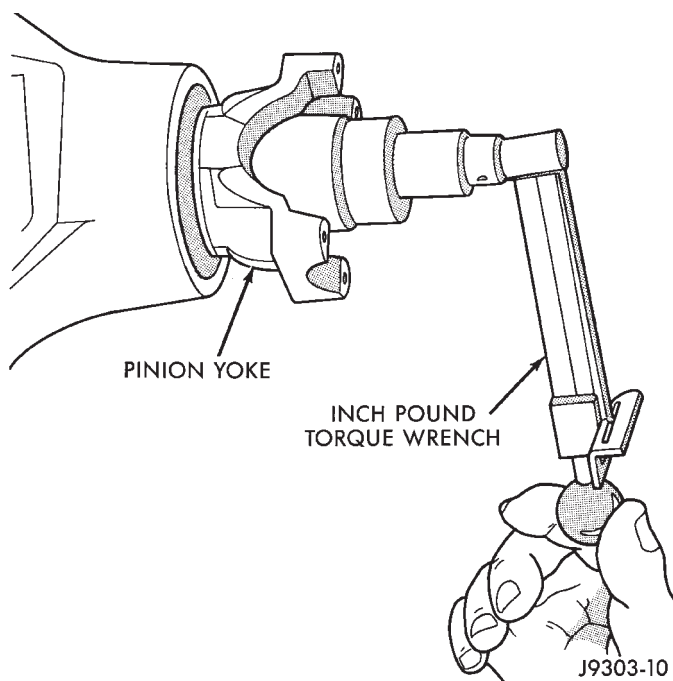

Fig. 21 Check Pinion Gear Rotation Torque
Measure the rotating torque frequently to avoid over crushing the collapsible spacer (Fig. 21).
(9) Check rotating torque with an inch pound torque wrench (Fig. 21). The torque necessary to rotate the pinion gear should be: